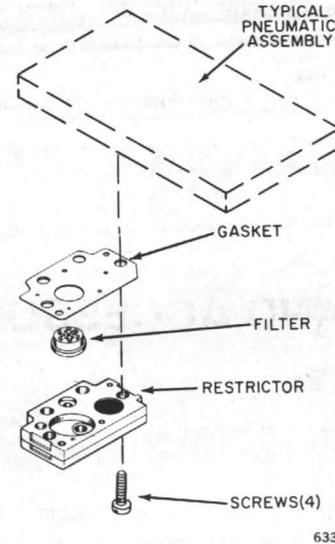

Fig. 20. Restrictor Block and Filter Replacement.
1. Remove the four Phillips head screws which fasten the restrictor block and filter (Fig. 20) to the back of the thermostat.